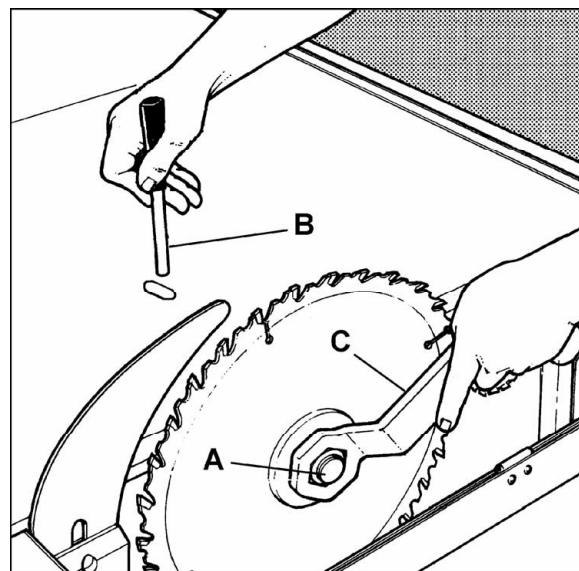

Figure 15
3. Raise main saw blade to its highest position and place spanner (C, Figure 15) over the arbor nut (A, Figure 15).
4. Insert the locking pin (B, Figure 15) into the hole on the saw table and turn the arbor with the spanner until the locking pin engages the hole in the saw arbor pulley.
7. Remove locking pin (B, Figure 15) and close blade cover.